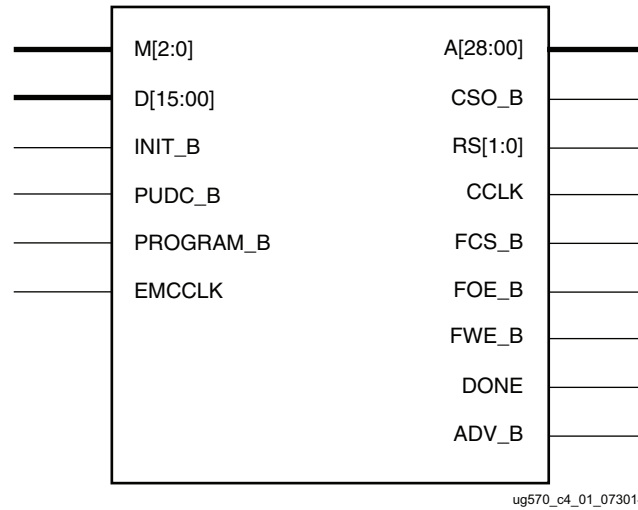
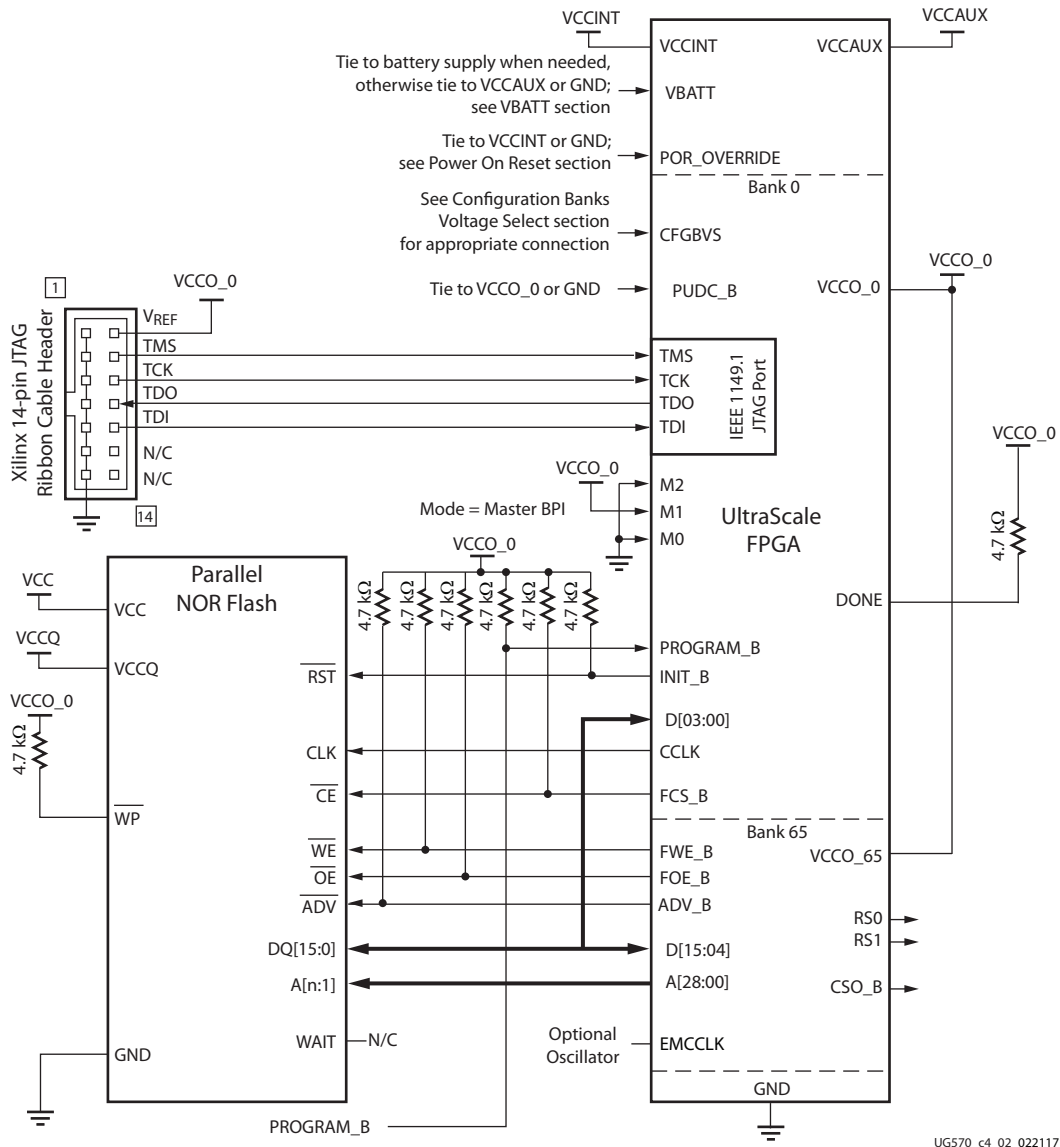
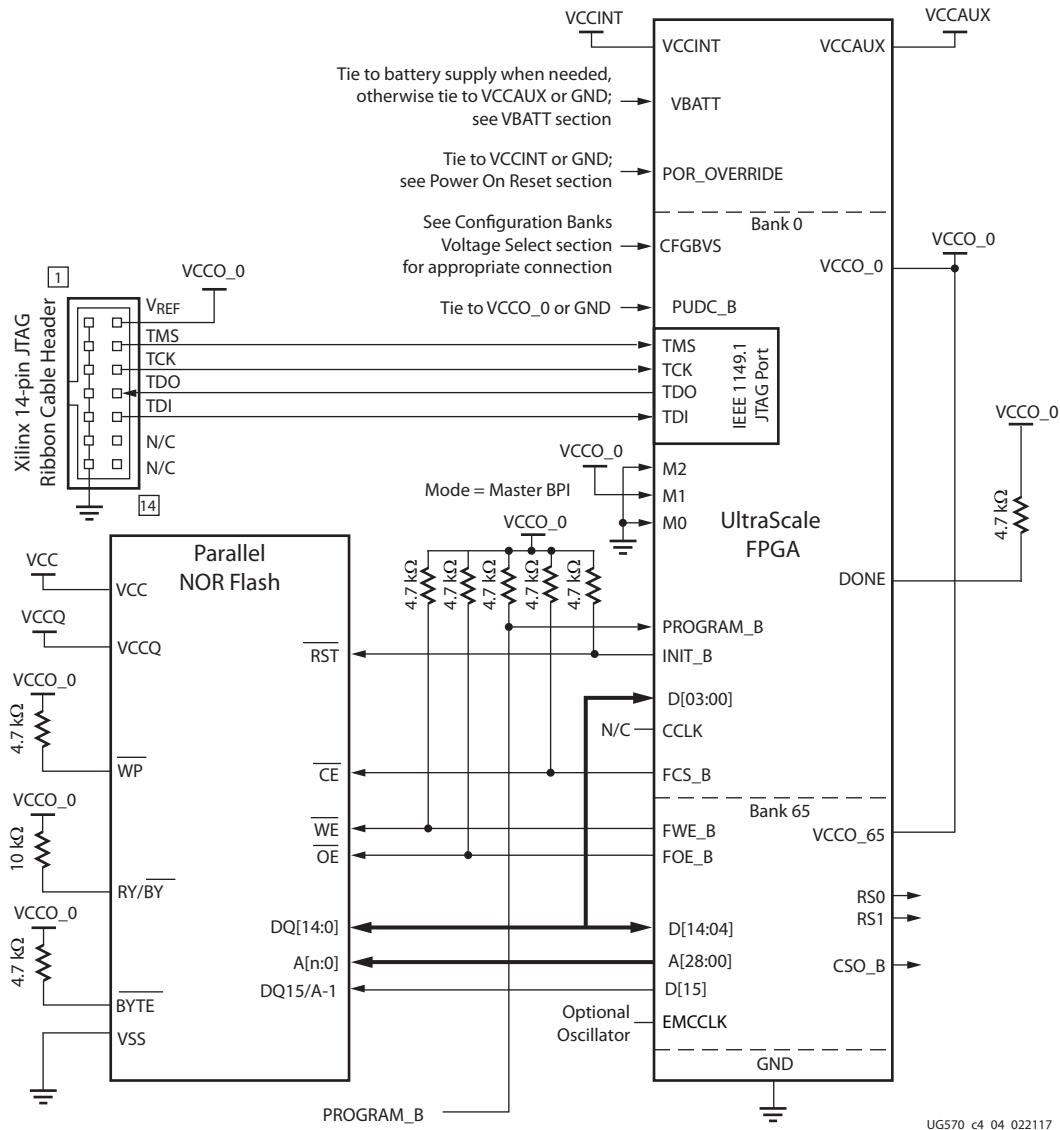

Figure 4-1: Master BPI Configuration Mode Interface
Figure 4-2: Master BPI Configuration Interface Example for x16 Synchronous Read
Figure 4-4: Master BPI Configuration Interface Example for x16 Asynchronous Read
The master BPI configuration interface is represented in Figure 4-1. Detailed connections between the FPGA and the parallel NOR flash for master BPI configuration mode are shown in Figure 4-2 and Figure 4-4. The FPGA signals are defined in Table 1-9, page 30.
Figure 4-2 provides the connectivity diagram between the FPGA and parallel NOR flash for the master BPI configuration mode to support the synchronous read and the EMCCLK (external master configuration clock). Refer to the External Master Configuration Clock \(EMCCLK\) Option in Chapter 1 for configuration clock option details. Figure 4-2 supports both synchronous and asynchronous read modes. If only asynchronous mode is required for the application, refer to Figure 4-4 for connections that are optional.
Notes relevant to Figure 4-2:
11. The RS[1:0] pins are not connected, as shown in Figure 4-2. This sample schematic supports single bitstream configuration. These output pins are optional and can be used for MultiBoot configuration.
By default, UltraScale FPGAs use the parallel NOR flash asynchronous read in the master BPI configuration mode. The FPGA drives the address bus from a given start address, and the flash sends back the bitstream data. The default start address is address 0, but the start address can be explicitly set in a MultiBoot reconfiguration procedure. In asynchronous read mode, supported bus widths of x8 and x16 are auto-detected. Figure 4-4 provides the connectivity diagram between the FPGA and parallel NOR flash for the x16 asynchronous read master BPI configuration mode.
Notes relevant to Figure 4-4:
5. The x16 BPI interface is shown in Figure 4-4. For x8 BPI interfaces, only D[07:00] are used.
13. The RS[1:0] pins are not connected, as shown in Figure 4-4. This sample schematic supports single bitstream configuration. These output pins are optional and can be used for MultiBoot configuration.